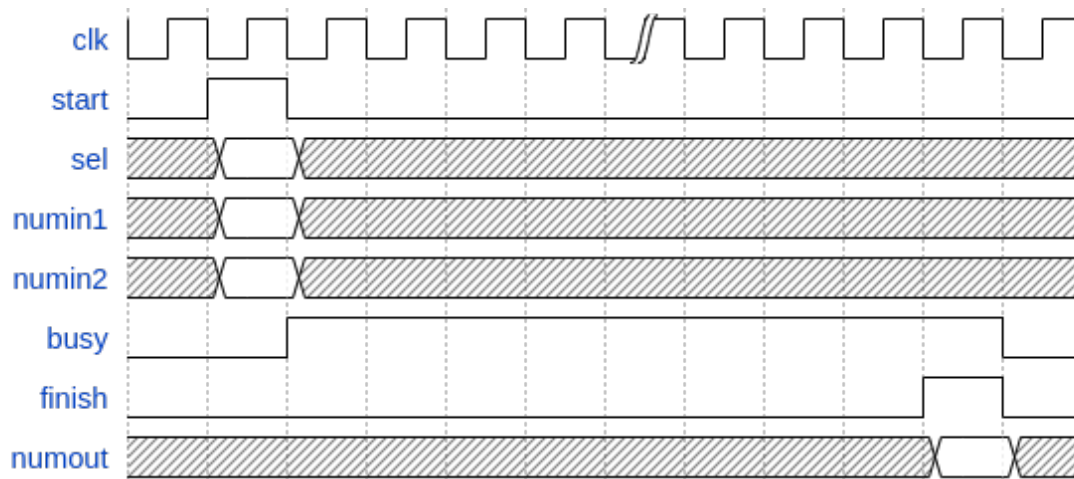

Figure 1: Input/Output Protocol
4. When your hardware finishes its operation, *finish* signal will be 1 for a single clock cycle and ,in the same clock cycle, resulting number will be at the output *numout*. Then, *busy* signal should be brought to 0 and the hardware should accept new input. An example timing diagram for input and output operations is shown in Figure 1.